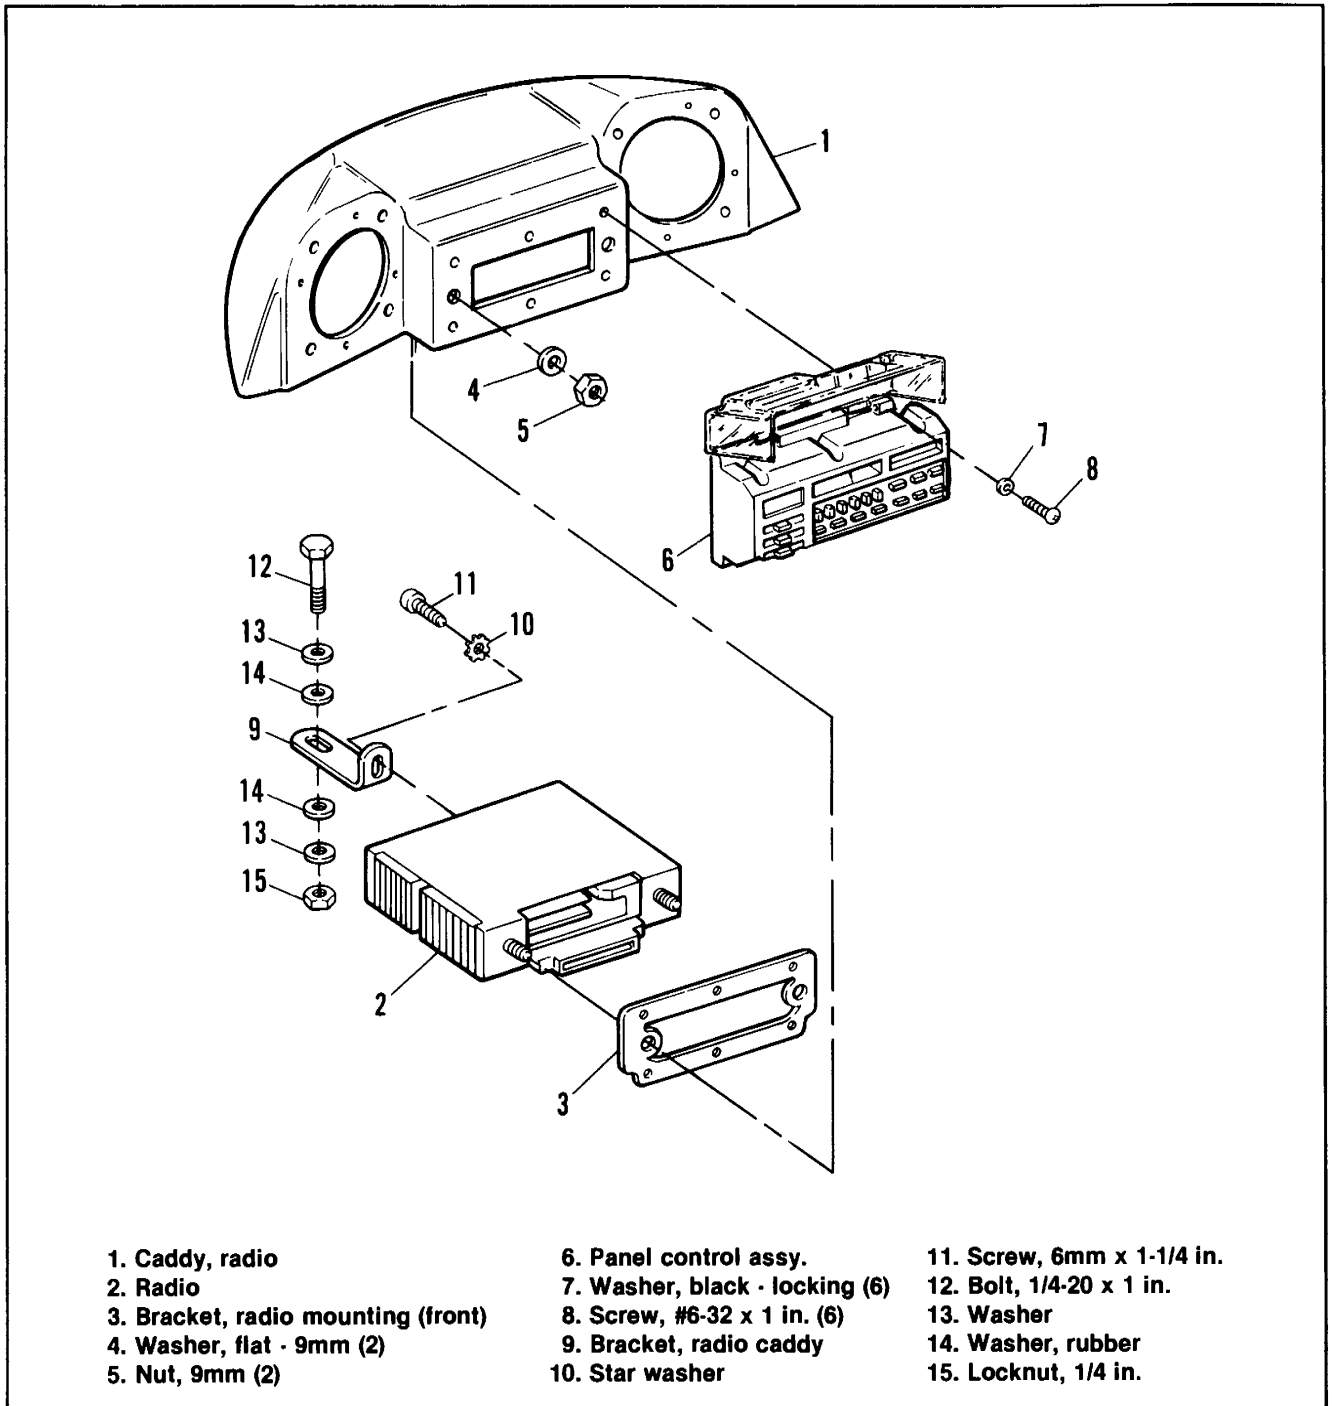

Figure 2-127. Radio Mounting — 1986-1987 FLTC
5. See Figure 2-127. Through headlamp opening remove the four nuts that attach the radio caddy (1) to top of fairing.
7. Remove rear mounting bolt (12), washers (13), washers (14) and nut (15).
8. Remove screws (8) and washers (7). Pull control panel assembly (6) free of radio chassis.
9. Remove stud nuts (5) and washers (4).
11. Remove bracket (9), screw (11) and washer (10).
1. See Figure 2-127. Attach bracket (9) to rear of radio using screw (11) and washer (10).